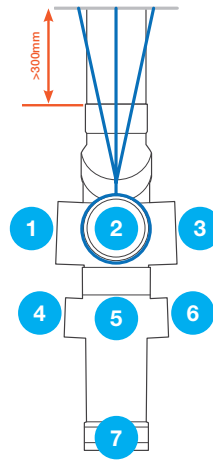

Figure 3
- A single M10 welded Nut Clip tightly secured tightly to the moulded inlet at both position (2) and position (7) on the Converge aerator (see Fig. 3)Nut Clip bolts should be tightened to form a secure connection (but not overtightened risking damage to the Converge).